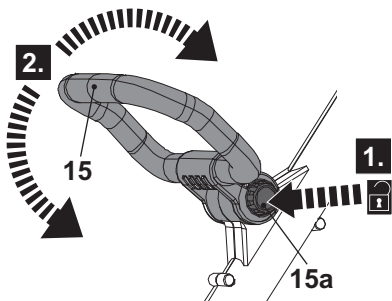

Fig. 6
1. Press down the lock button (15a) and hold it in position, then rotate the auxiliary handle (15) upward or downward to adjust the angle (Fig. 6).
2. Release the lock button (15a), and continue to gently swing the auxiliary handle (15) until it locks in place. Ensure the tooth system locks in place.